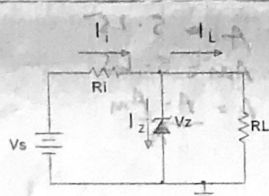

Figure Q6a
- 6) (a) For the Zener diode voltage regulator circuit shown in Figure Q6a, derive the expression for the maximum Zener current in terms of voltage and current only. (4 marks)